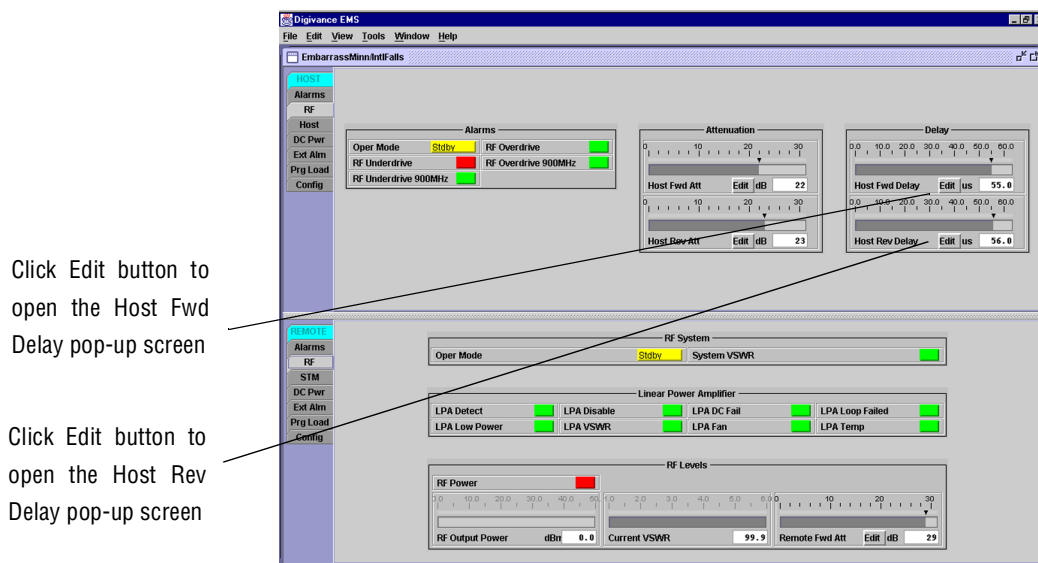
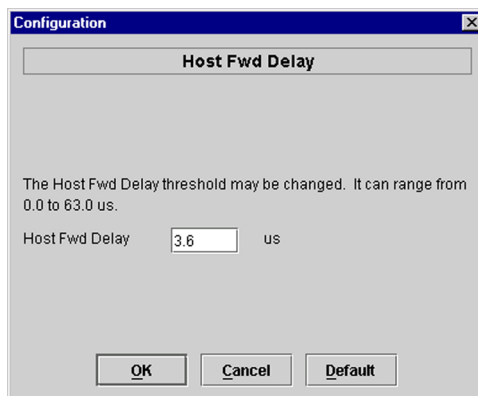

Figure 3-14. HOST RF Display
Figure 3-15. Host Fwd Delay Pop-Up Screen
1. Click on the **HOST RF** tab. The **HOST RF** display will open within the EMS main window as shown in Figure 3-14.
2. Click on the **Host Fwd Delay** field **Edit** button (see Figure 3-14). The **Host Fwd Delay** pop-up screen will open as shown in Figure 3-15.
5. Repeat the process for reverse delay by right-clicking on the appropriate delay section (see Figure 3-14) and then entering the required delay value in the pop-up screen.